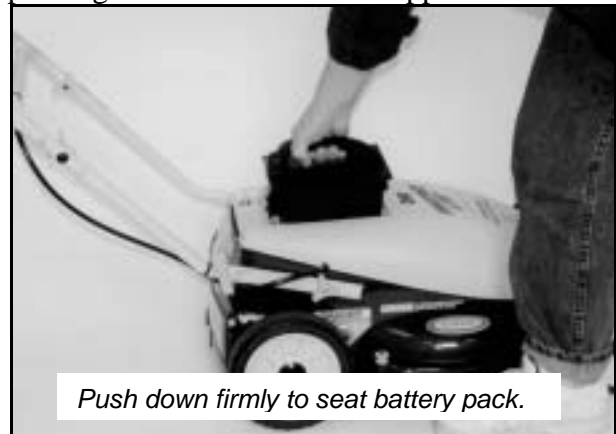

Figure 2
5. Place the battery pack into the opening provided on top of the mower (*Figure 2*). Push firmly into place; it will fit in only one position.